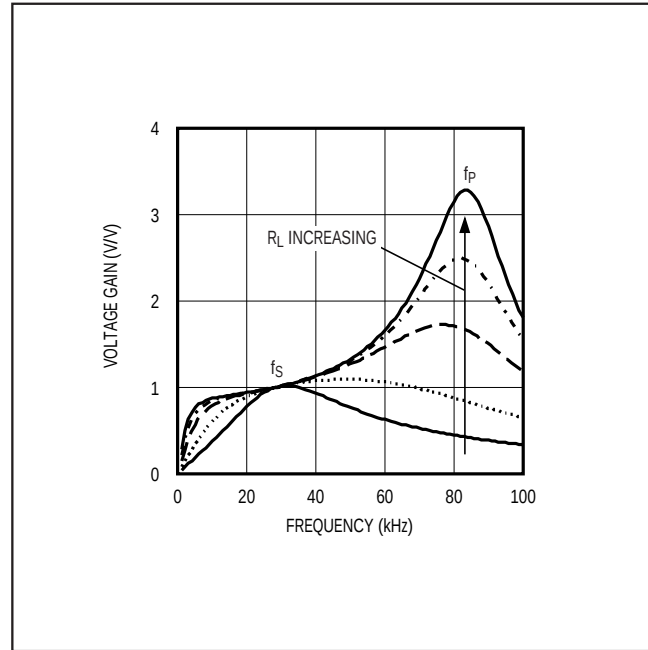

Figure 5. Frequency Response of the Resonant Tank
Figure 5 shows the frequency response of the resonant tank's voltage gain under different load conditions. The primary series capacitor is 1μF, the secondary parallel capacitor is 15pF, the transformer turns ratio is 1:93, and the secondary leakage inductance is 260mH. Notice that there are two peaks, f_S and f_P , in the frequency response. The first peak, f_S , is the series resonant peak determined by the secondary leakage inductance (L) and the series capacitor reflected to the secondary ($C'S$):